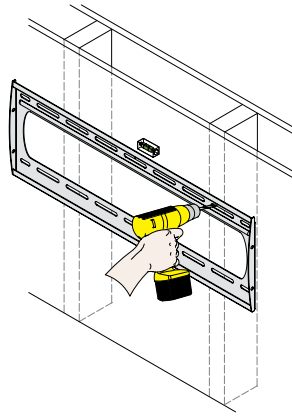

Figure 7. Drilling a Pilot Hole
7. Drill a "pilot hole" in the center of the upper right mark using a $\frac{1}{4}$ " drill bit (not included) and power drill (not included) (Figure 7).